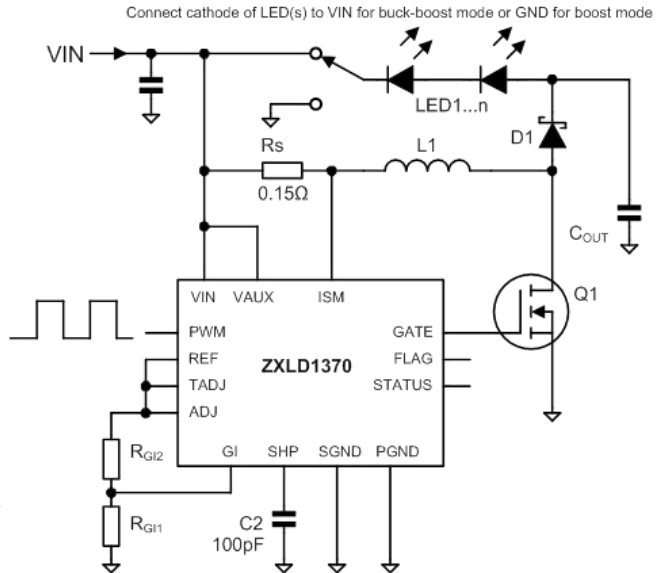

Figure 23 Boost and Buck-Boost Configuration
b) Boost and Buck-Boost Modes – the most simple boost/buck-boost circuit shown in Figure 23
The average current in the LED, I_{LED} , is always less than I_{RS} . The feedback control loop adjusts the switch duty cycle, D, to achieve a set point at the sense resistor. This controls I_{RS} . During the interval t_{OFF} , the coil current flows through D1 and the LED load. During t_{ON} , the coil current flows through Q1, not the LEDs. Therefore the set point is modified by D using a gating function to control I_{LED} indirectly. In order to compensate internally for the effect of the gating function, a control factor, GI_ADJ is used. GI_ADJ is set by a pair of external resistors, R_{G1} and R_{G2} (Figure 23). This allows the sense voltage to be adjusted to an optimum level for power efficiency without significant error in the LED controlled current.